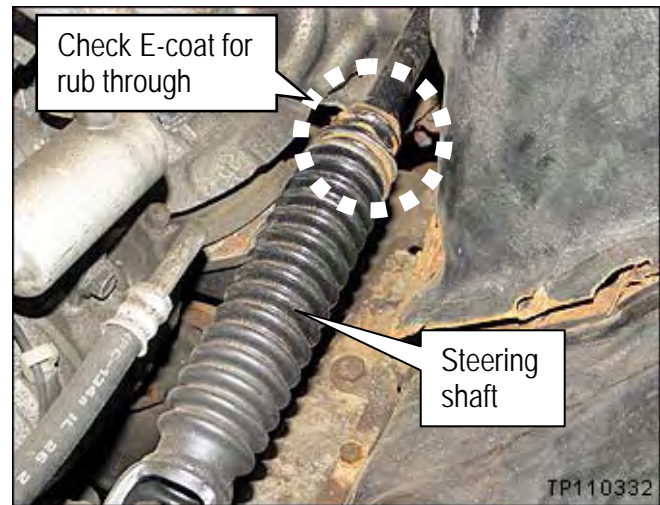

Figure RB4
6. Inspect the steering column upper joint (steering shaft) in the area circled in Figure RB4.